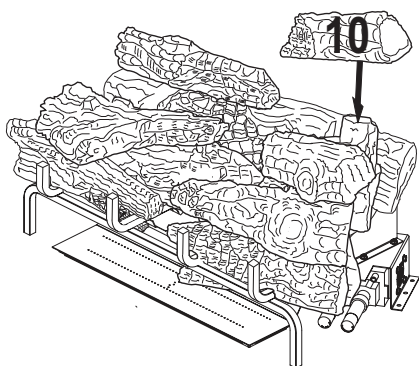

Figure 46 - Installing Log # 10
- Place the right rear top log (#10) on top of the right rear chunk log (#7) as shown in Figure 46, page 24. Match the rectangular peg on the top of the right rear chunk log (#7) with the rectangular hole on the bottom of the right rear top log (#10).